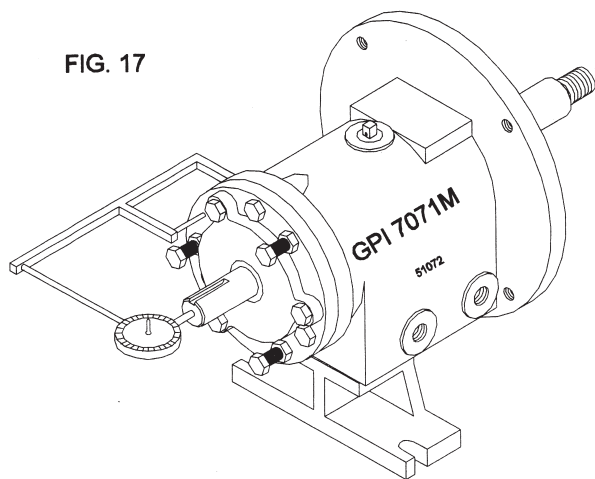

FIG. 17
2. Check shaft end play. Move the shaft forward and backward by hand, if total indicator reading is greater than the values in Table 7 disassemble the power frame and determine the cause. (Fig. 17)